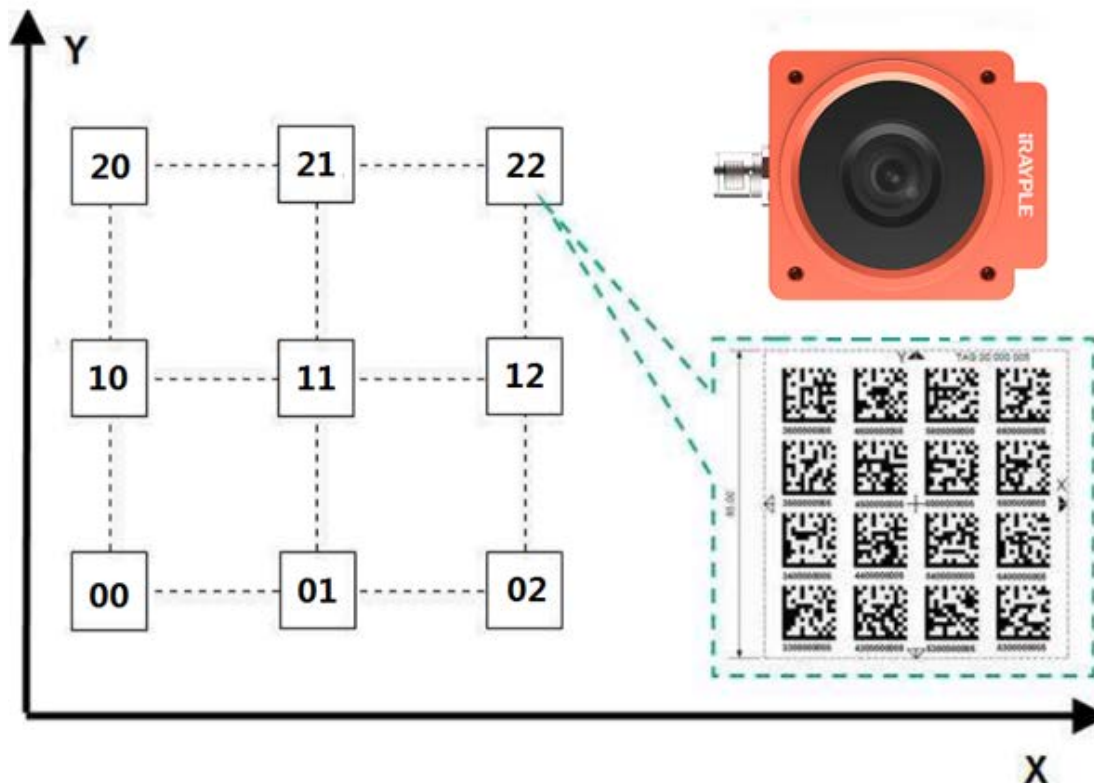

Figure 1-6 Attach tags
- When attaching tags to the ground, make sure that all “X Marks” follow the direction of the X axis and all “Y Marks” follow the direction of the Y axis, as shown in Figure 1-6.